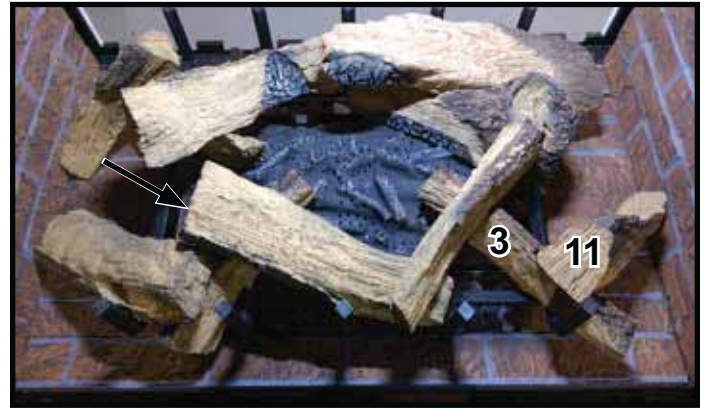

Figure 20. Log #11 from front.
**LOG NUMBER 11 (SRV2272-709):** Place Log #11 on the groove on Log #3. The other end of the log should rest against the side and bottom brick panels as shown in Figure 20. Care should be taken not to place the log where it will restrict the function of the accent lights.